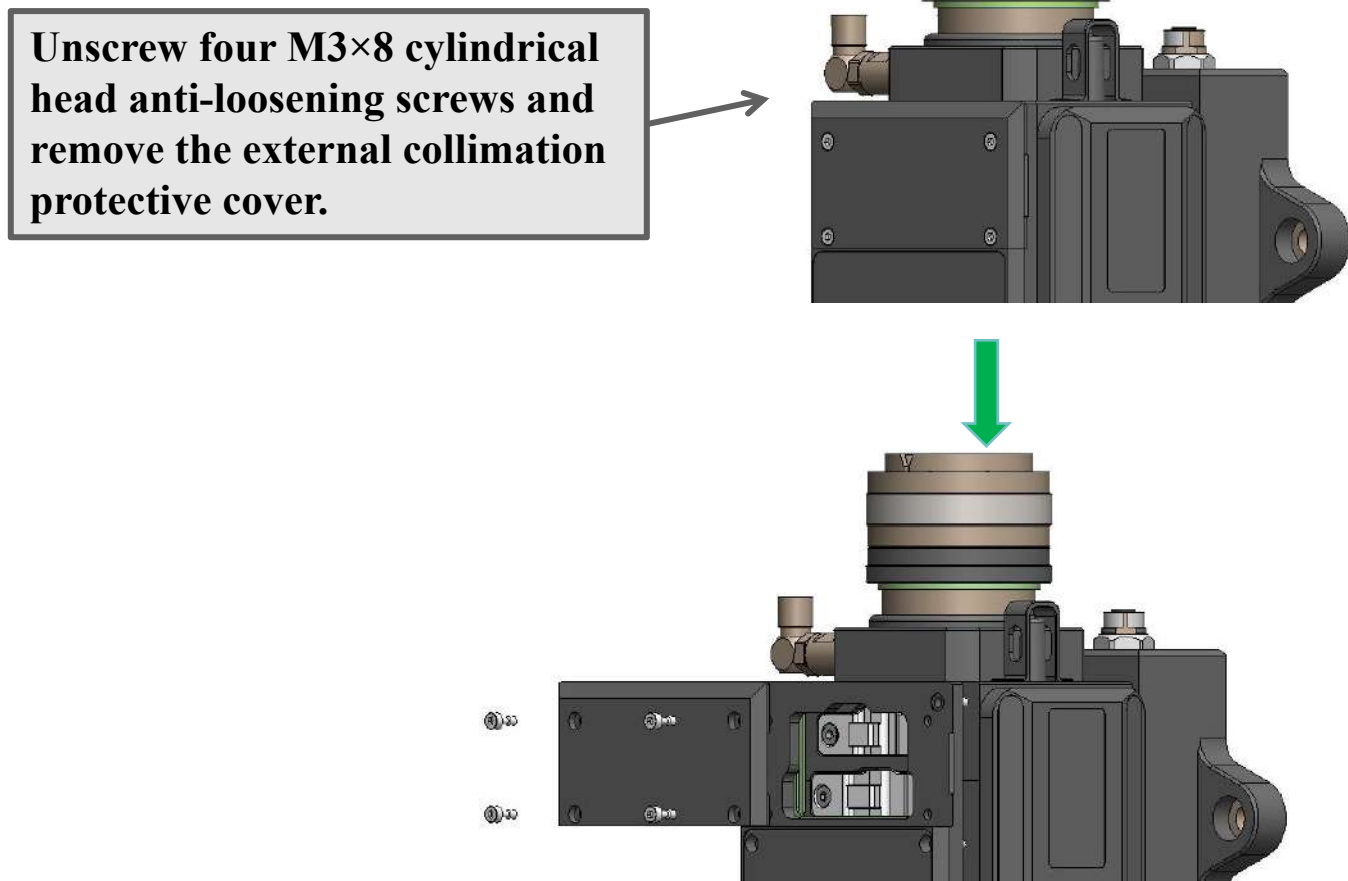
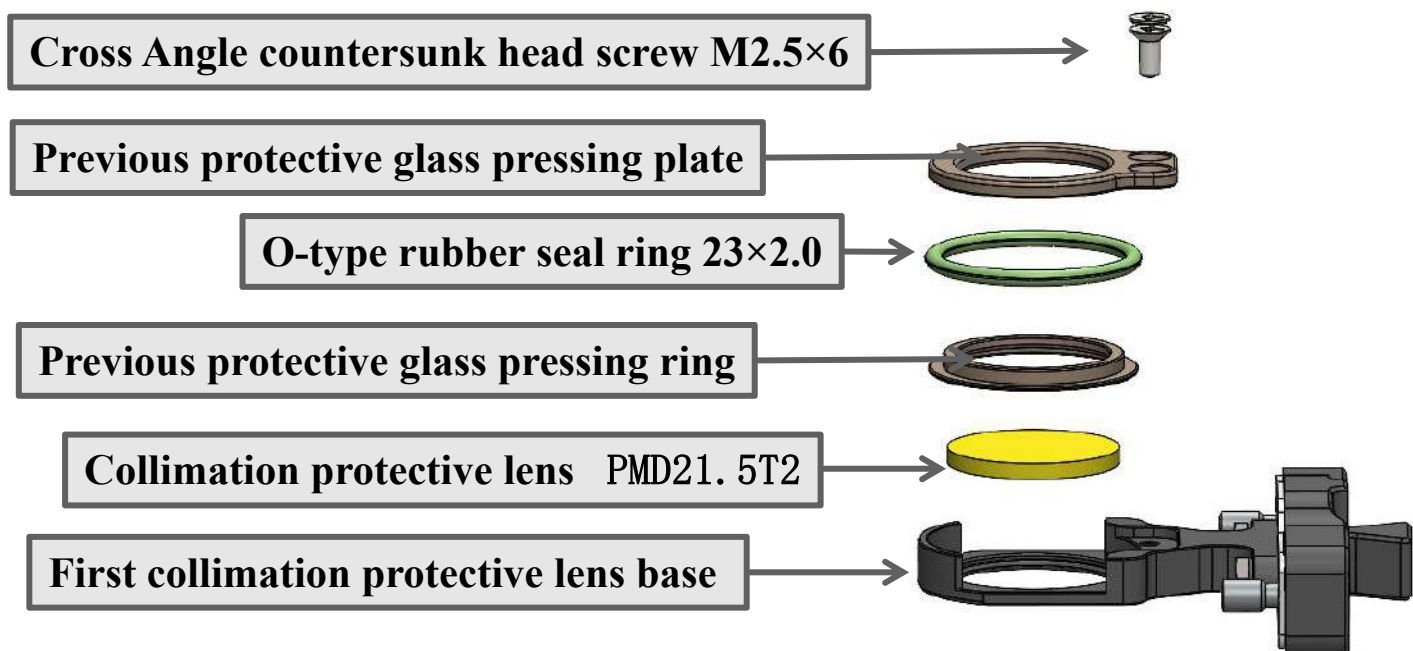

Figure 3.3
Figure 3.5
5.1.1 Disassembly and assembly of the first and second collimation protective lens, as shown in Figure 3.3.
(1) Disassembly and assembly of the first collimation protective lens, as shown in Figures 3.3, 3.4, and 3.5.
(2) Disassembly and assembly of the second collimation protective lens, as shown in Figures 3.3, 3.4, and 3.5. as shown in Fig. 3.5.